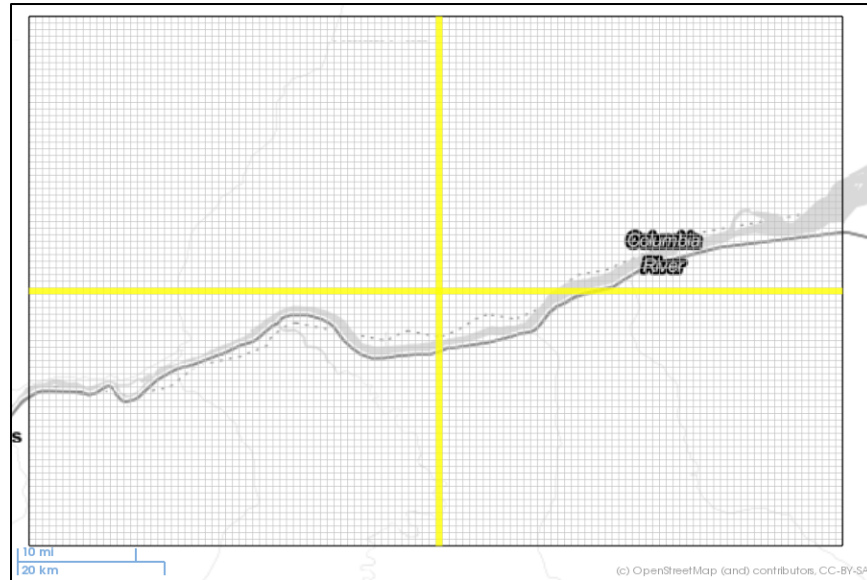

Figure 14. The Grid Editor with the grid cursor
1. **To Start the Grid Editor:** Select *Discretization > Grid*. Figure 14 shows the Grid Editor, with the grid cursor highlighting the entire row and column at the selected cell location. You can use the Pan tool (Section 3.6.1) and Zoom tool (Section 3.6.2) to interact with the map, to move the grid cursor, and/or adjust the model grid.